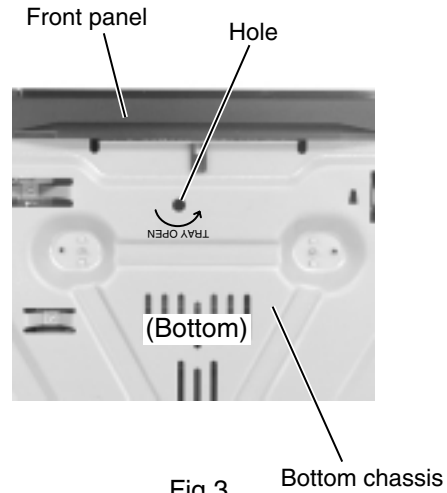

Fig.3
■ **Removing the fitting (See Fig.3 to 6)**
■ Removing the loading motor / loading motor board (See Fig.3 and 4)